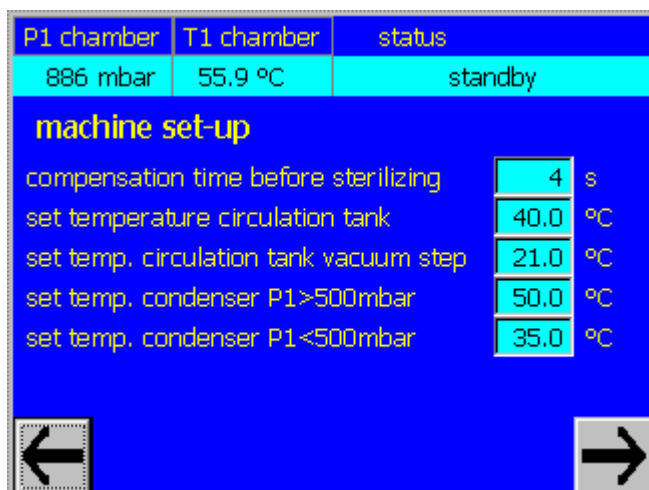

Figure 9-31: Machine set-up display 3
- The third display (refer to Figure 9-31) functions are: The compensation time before the sterilization is started can be set (default: 4 seconds).